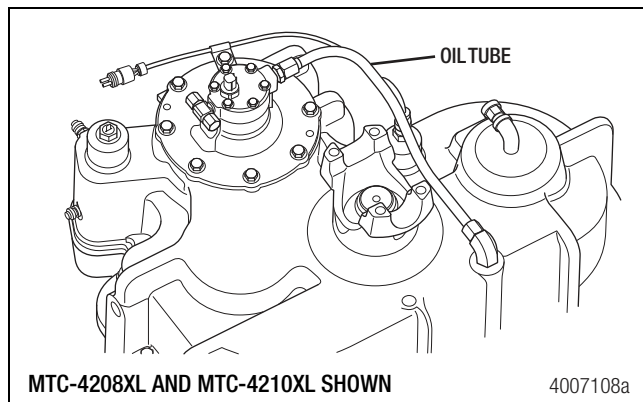

Figure 5.1
- Disconnect the transfer case oil inlet line from the oil pump cover. Figure 5.1.